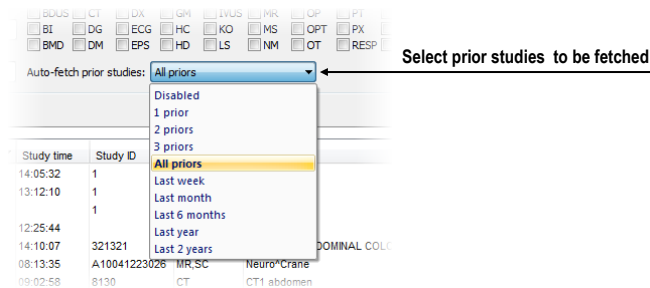

Figure 117 – Specifying which prior studies should be received
4. Set the parameters of the prior studies filter (see Figure 117), which defines the group of automatically added prior studies of the selected study in the worklist.